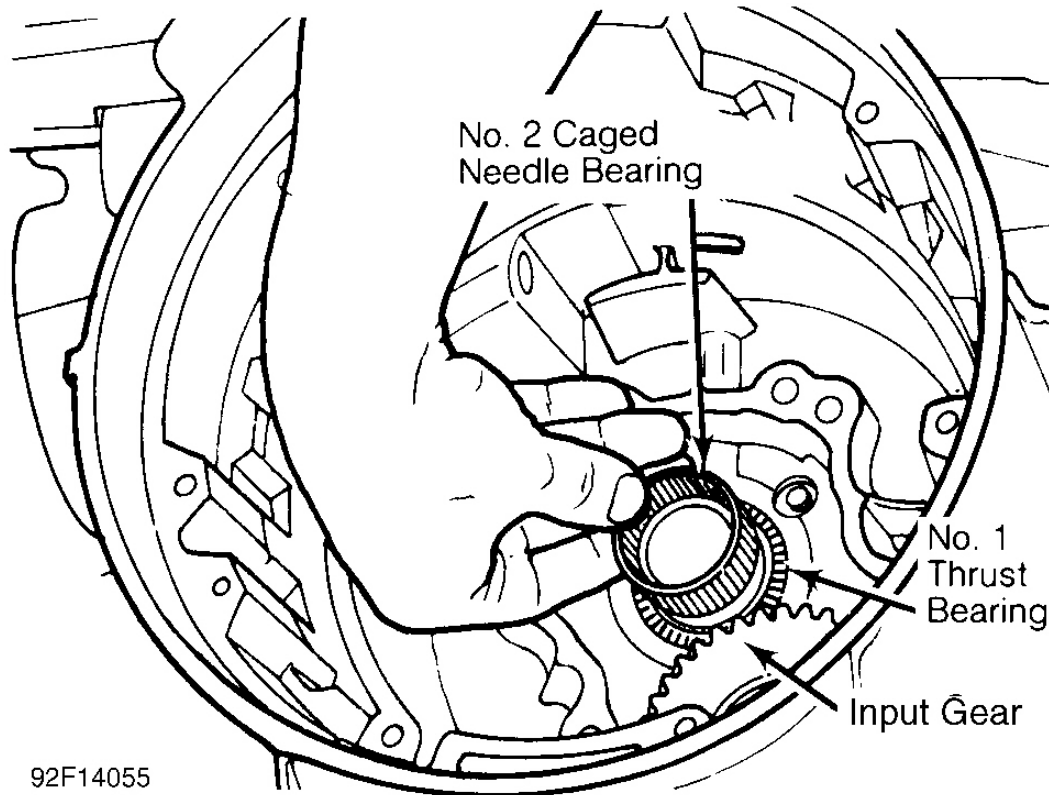

Fig. 15: Installing Thrust Bearing & Caged Needle Bearing
2. Apply Loctite to idler shaft attaching nut. Install and tighten nut to specification using a 32-mm 12-point socket. Refer to the **TORQUE SPECIFICATIONS** . Install No. 1 thrust bearing and input gear No. 2 caged needle bearing. See **Fig. 15** .